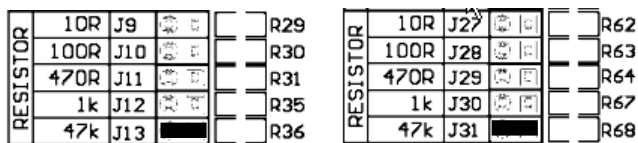

Figure 2: Left and right channel jumper banks default setting for resistance load adjustments
There are five (5) different settings available for setting the resistive load; 10 $\Omega$ , 100 $\Omega$ , 470 $\Omega$ , 1k $\Omega$  and 47k $\Omega$  which are represented by jumper sockets J9, J10, J11, J12 and J13 respectively for the left channel and jumper sockets J27, J28, J29, J30 and J31 for the right channel (refer to figure 2). The factory default setting is 47k $\Omega$ , therefore jumpers will be found in sockets J13 & J31.